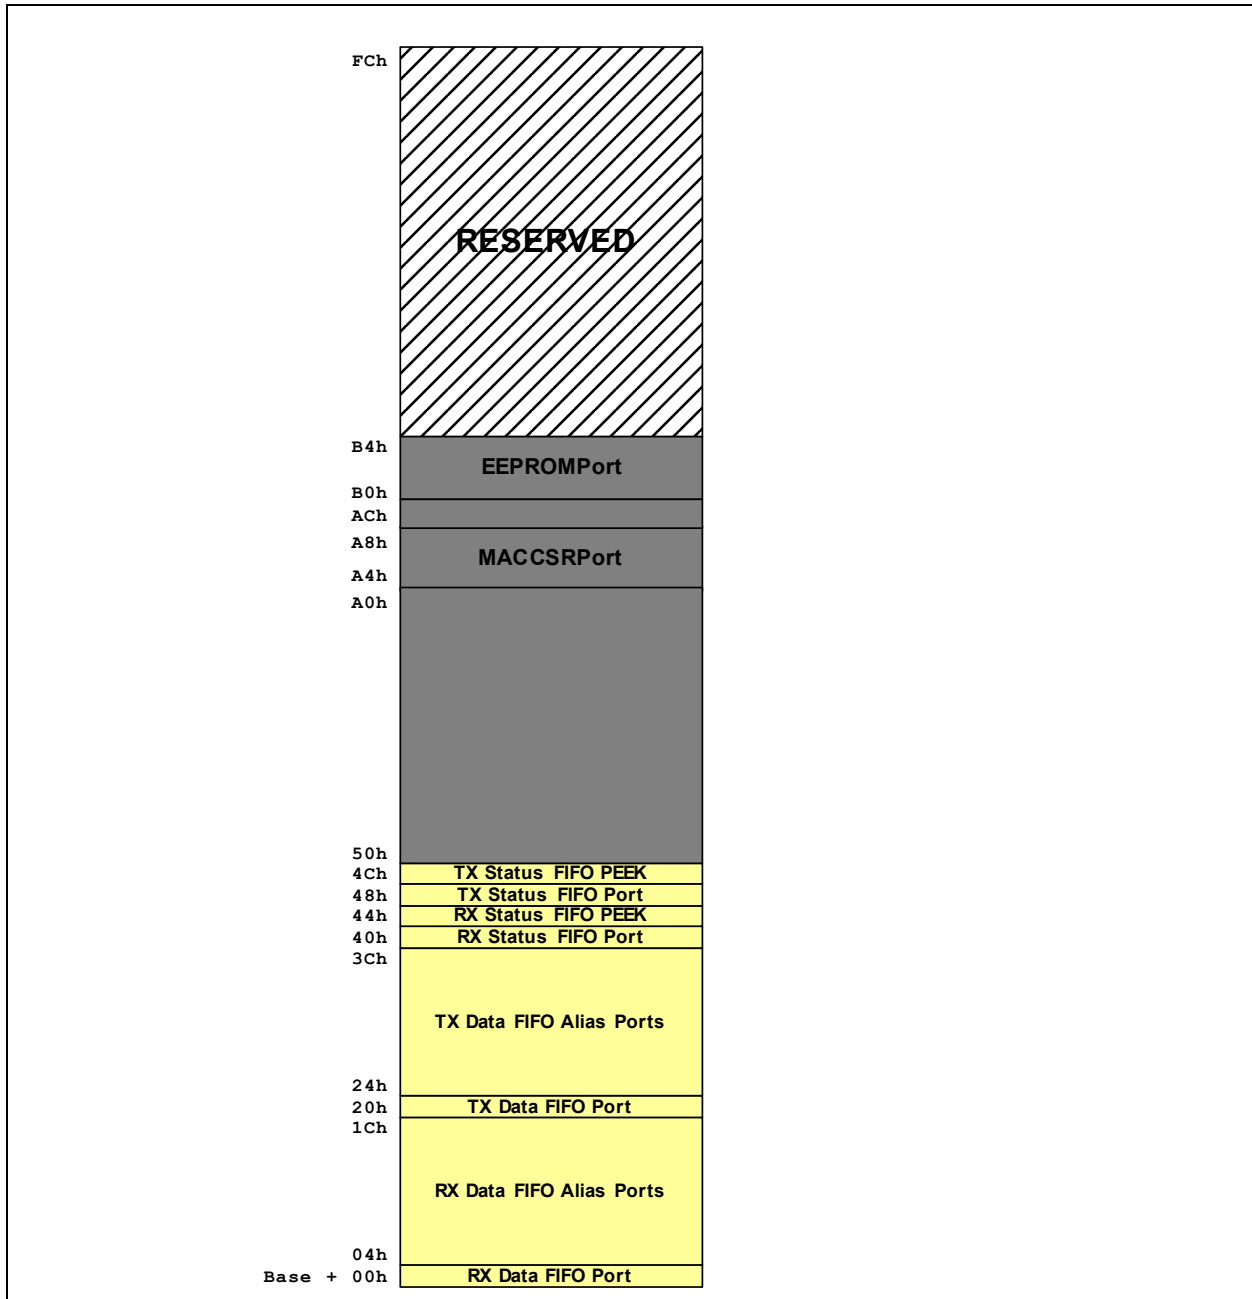

Figure 5.1 Memory Map
**Note:** The LAN9215i host bus interface supports 16-bit bus transfers; internally, all data paths are 32-bits wide. Figure 5.1 describes the memory map with respect to pairs of atomic 16-bit transactions.